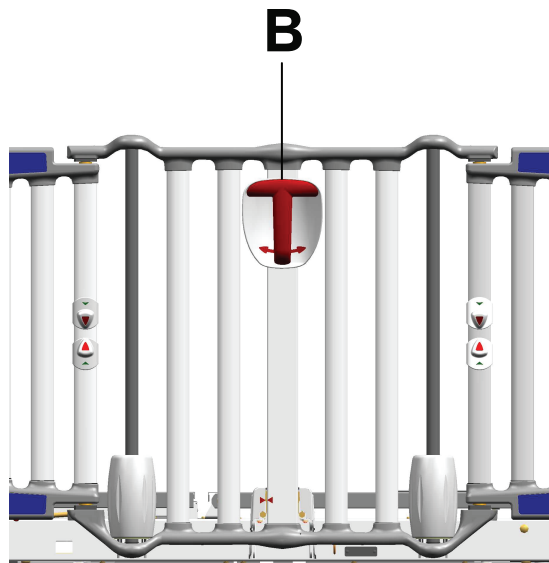

Figure 5 – Siderail activation handle
1. Grasp the siderail activation handle (B), press the activation trigger, and turn the handle left or right (Figure 5).